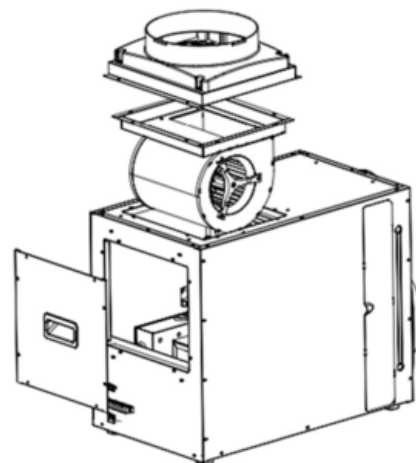

Figure 4
- Feed the wiring harnesses through the opening in the top of the main housing and reconnect them to the main harness. Insert the fan assembly into the opening oriented as shown in Figure 4. Reinstall the eight Phillips head screws to retain the fan assembly.
- Place the top cover over the side opening and install the eight Phillips head screws to retain the cover (See Figure 4). At this time the changeover is complete.